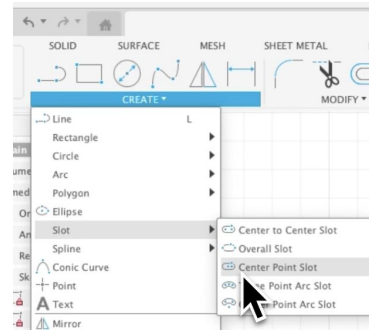

Figure 1.7
- Create a sketch on the lid's top face and use **Create > Slot > Center-Point Slot** to draw a vent centered at the origin. Radius: 0.125 inches; Length: 1.75 inches (see Figure 1.7).